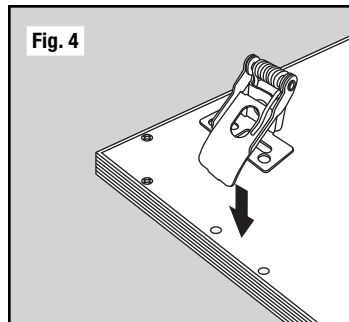

Fig. 4
3. Attach four LEDP-CLIPS to LEDPH-22 panel, or six to LEDPH-14 panel (Fig. 4).